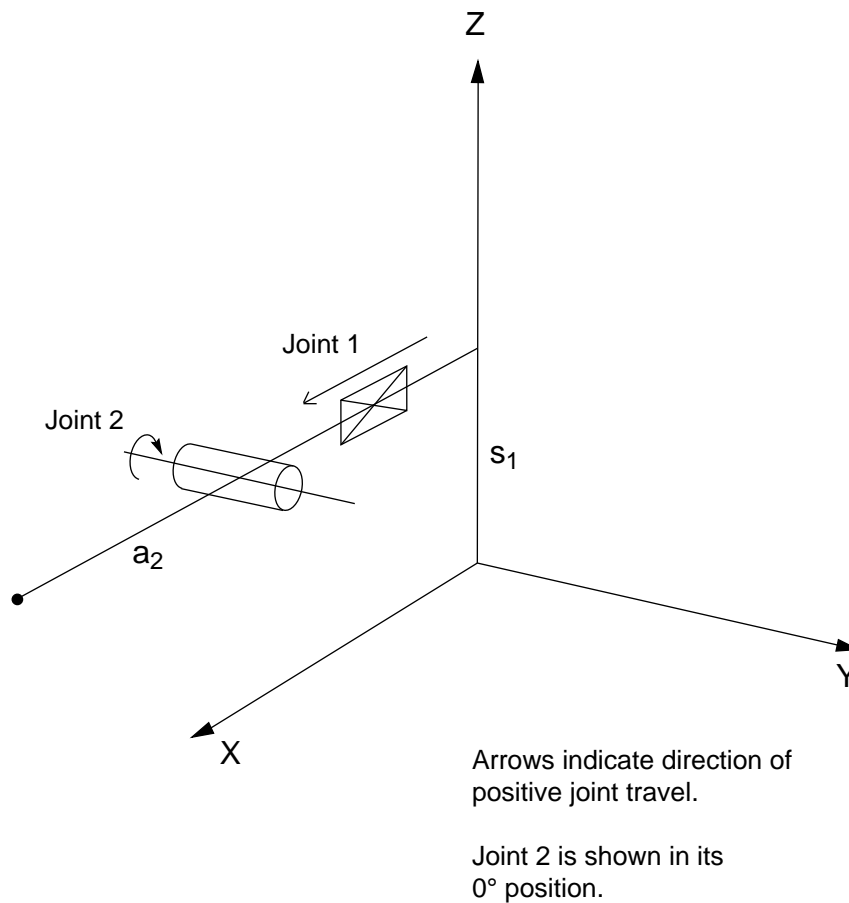

Figure 11-1. . Link Definitions and Dimensions for X / Z Robot (with rotary joint 2)
This robot module controls a mechanism with two degrees of freedom—a linear joint (X) followed by a joint that provides vertical motion (Z). The XZ robot module can operate with either a rotary Z axis or a linear Z axis. In the linear mode, joint 2 moves directly up and down. In the rotary mode, joint 2 rotates about a horizontal axis, and the robot’s tool is assumed to be always maintained in a downward direction by a simple pivot and gravity arrangement. Consequently, this robot produces motions that are equivalent to an X/Z Cartesian robot, as shown in Figure 11-1. .